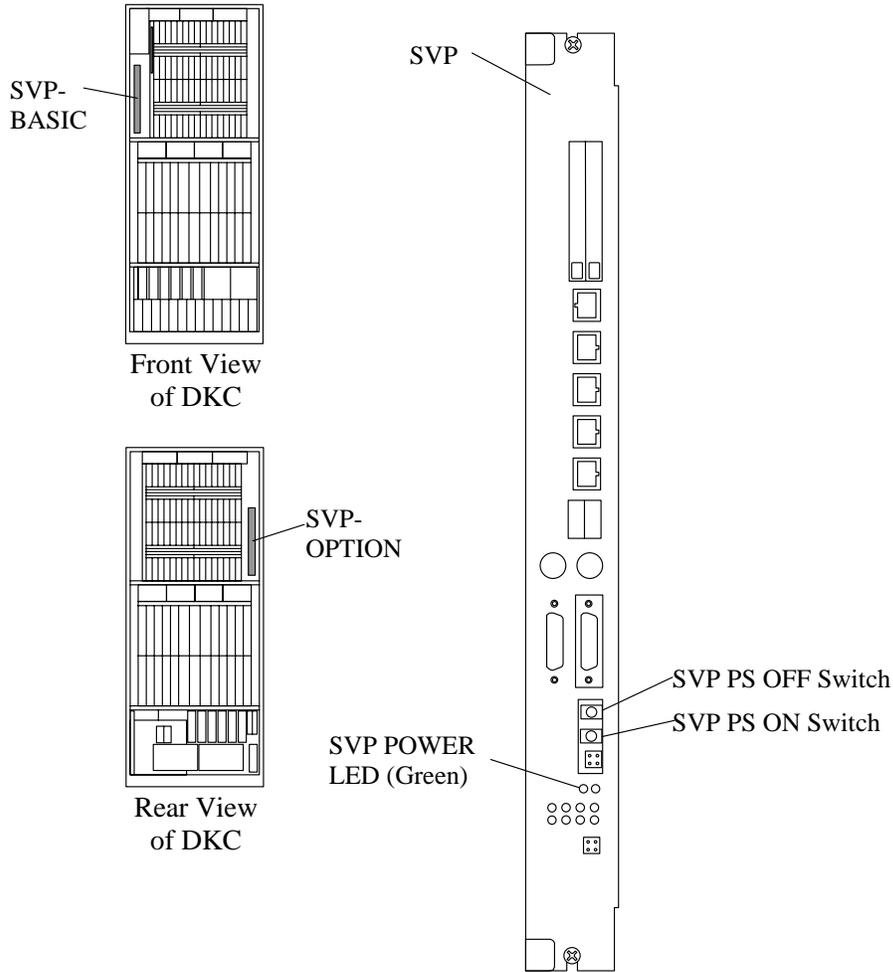

Fig. T7.1-3 SVP PS OFF
- a. Check that the SVP POWER LED of the SVP is on. (Refer to Fig. T7.1-3.)